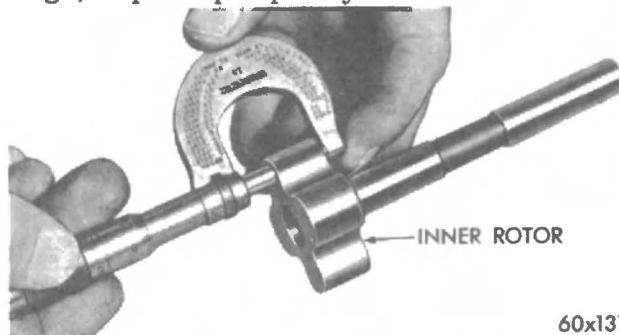

Fig. 5 - Measuring inner rotor thickness. 60x137
(4) If inner rotor length measures less than .649" (Fig. 5), replace inner rotor.